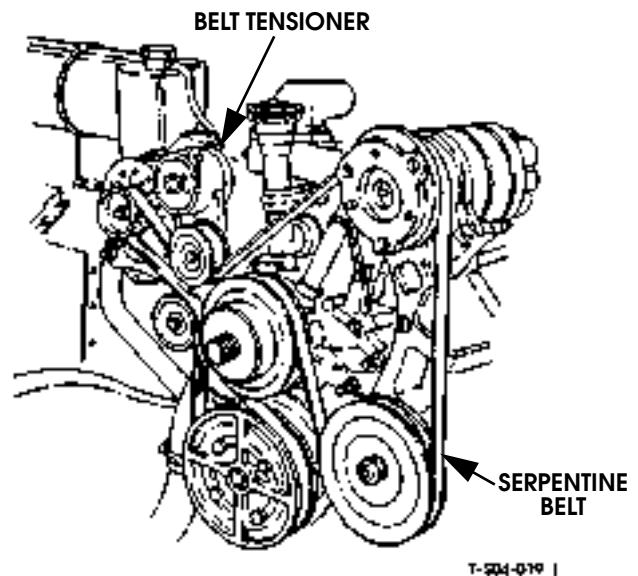

Figure 2-15: Serpentine Belt Tensioner Location
- a. Loosen drive belt by rotating belt tensioner in counterclockwise direction (Figure 2-15). Use 1/2 in. drive breaker bar to rotate pulley.
8. Loosen and remove serpentine drive belt. Use 1/2 in. drive breaker bar to rotate belt tensioner counterclockwise to loosen belt (Figure 2-15).